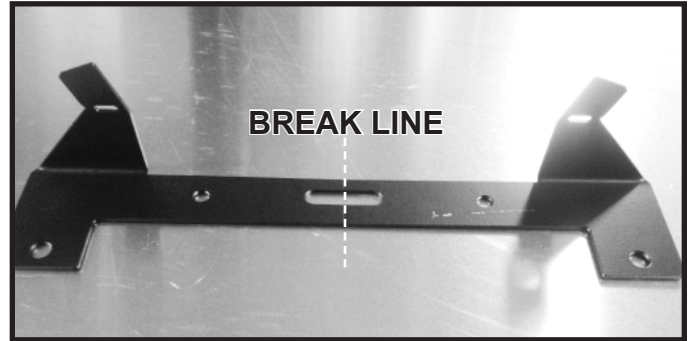
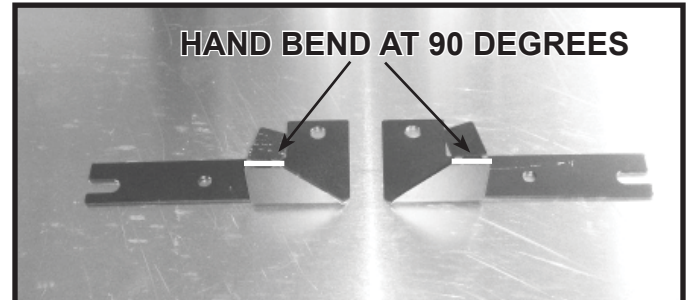

Figure 9. Barrier Glass Support
Figure 11. Form Barrier Glass Support
5. Break the barrier glass support into two pieces as shown in Figures 9 and 10. Make the hand bends as shown in Figure 11 to form the glass supports